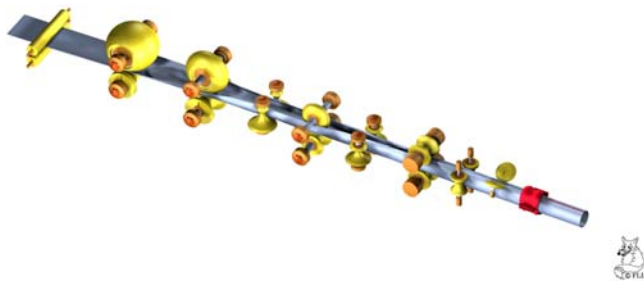

FIGURE 2.2 Shaping butt-weld pipe.
**Butt-welded pipe** is formed by feeding hot steel plate through *shapers* that will roll it into a hollow circular shape. Forcibly squeezing the two ends of the plate together will produce a fused joint or seam. Figure 2.2 shows the steel plate as it begins the process of forming a butt-welded pipe.